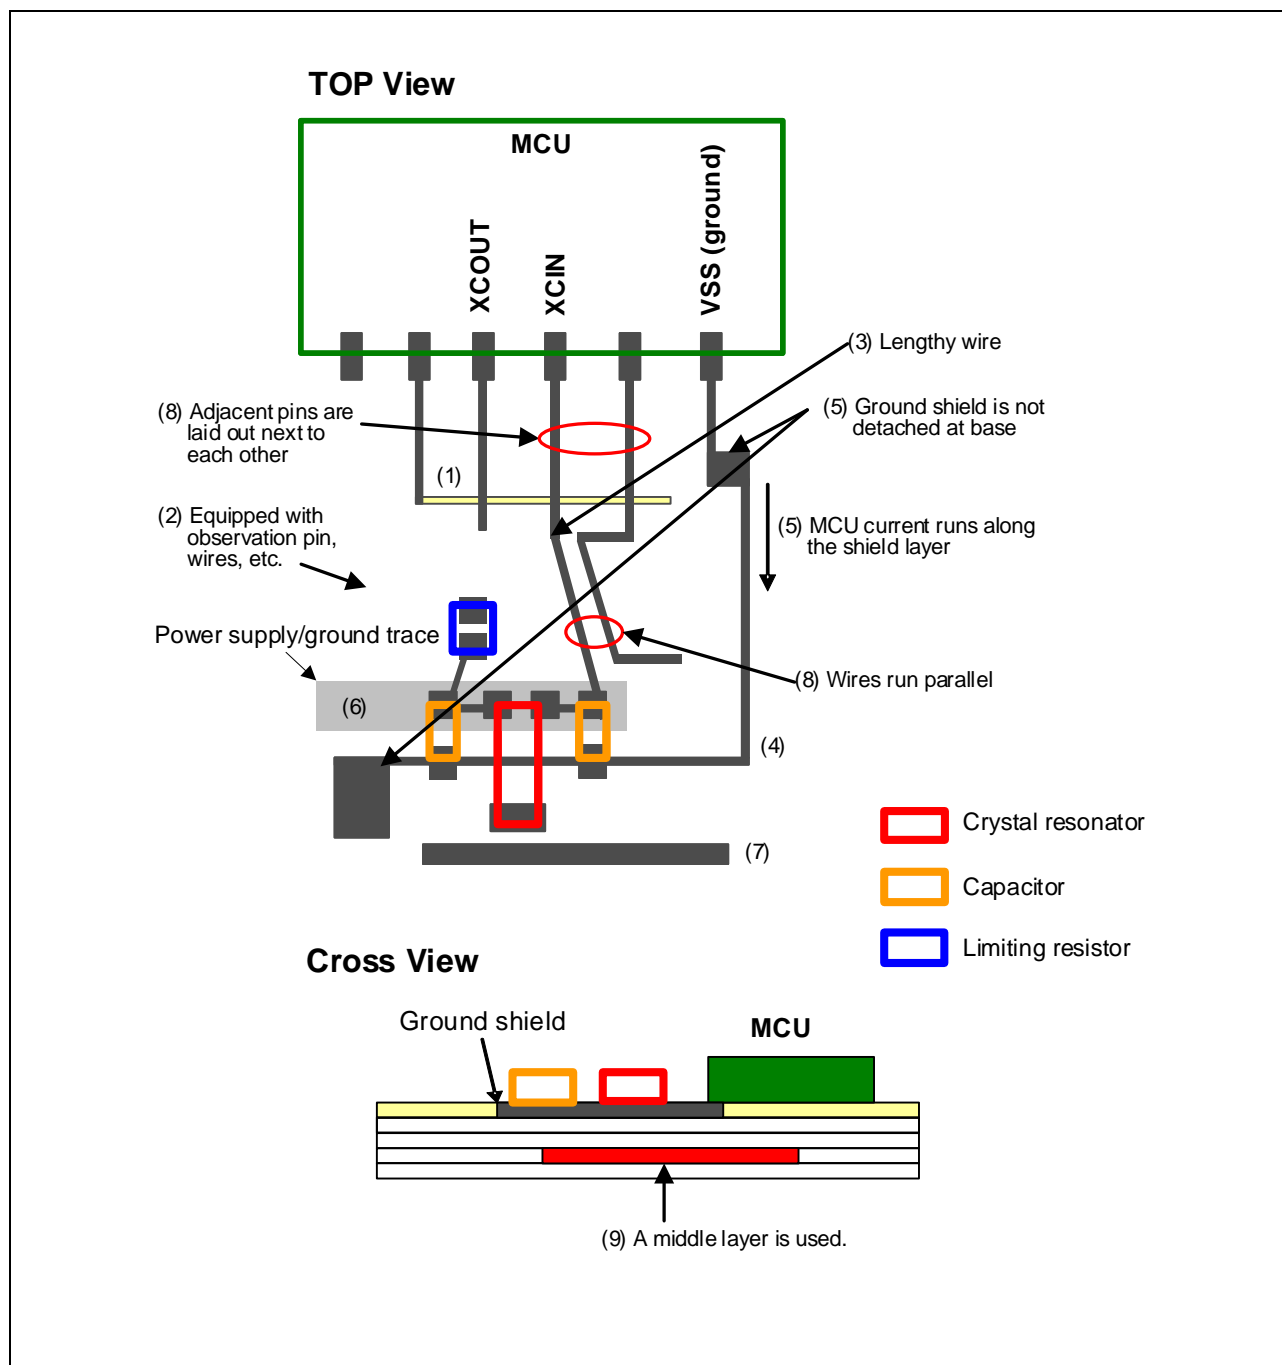

Figure 3.13 Trace Example Showing High Risk of incorrect Operation Due to Noise
Do not lay out traces described in (1) through (9). Laying out the traces below may cause the low CL resonator to not oscillate correctly. Figure 3.13 shows a trace example.
(1) XCIN and XCOU wires cross other signal wires (risk of incorrect operation).
(2) Observation pins are attached to XCIN and XCOU (risk of oscillation stopping).
(3) XCIN and XCOU wires are long (risk of erroneous operation or decreased accuracy).
(4) The ground shield does not cover the entire area, and where there is a ground shield, the wiring is long and narrow (easily affected by noise, and there is a risk that accuracy will decrease from the ground potential difference generated by the MCU and external capacitor).
(5) Ground shield is not detached near VSS pin (risk of incorrect operation from MCU current flowing to the ground shield).
(6) Power supply or ground trace are under the XCIN and XCOU wiring (risk of losing the clock or oscillation stopping).
(7) A wire with a large-current is routed nearby (risk of incorrect operation).
(8) Parallel wiring for adjacent pins is close and long (risk of losing the clock or oscillation stopping).
(9) The middle layers are used (risk of oscillation characteristics decreasing or signals operating incorrectly).